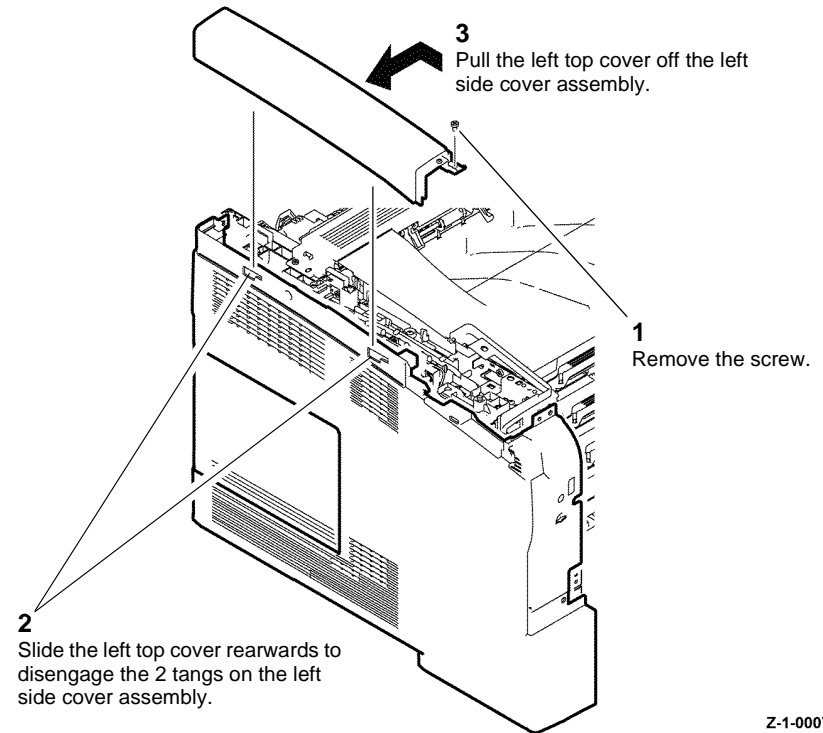

Figure 1 Top left cover removal C400
- Remove the top left cover, Figure 1.